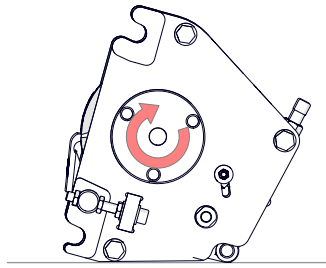

Fig.19B - Rotate the cylinder clockwise
5. Using a suitable brace or drill, rotate the cylinder clockwise causing a grinding action with the shear blade (Fig.19B). This should be continued until a sharp lip is achieved on the leading edge of each cylinder blade. This may take a few minutes - stop periodically to check the edge and reapply paste as necessary.